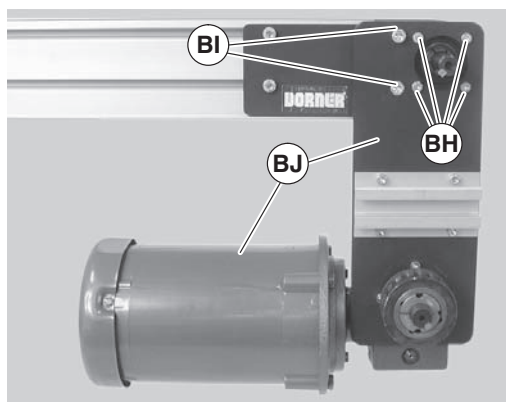

Figure 44
- e. Remove four (4) M5 mounting screws (Figure 44, item BH) and two (2) M8 mounting screws (BI).
- f. Remove gearmotor and mounting plate assembly (Figure 44, item BJ).